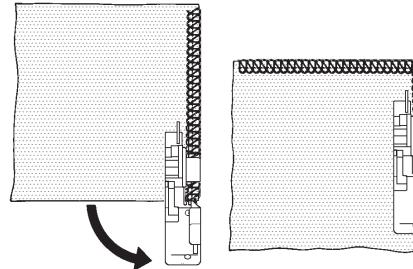

Fig. 1
3. Turn the fabric, lower the presser foot and begin stitching in the new direction. Fig. 1.
1. Snap the detachable cord guide, in your accessory set onto the thread guide pole (Fig. 1).
2. Place a *filler* cord, such as a crochet cotton, gimp, wool, knitting yarn, or shirring elastic at the rear of the machine spool pin. Pass the cord through the cord guides (1) and (2) and then through the left needle thread guide (3). See Fig. 1.